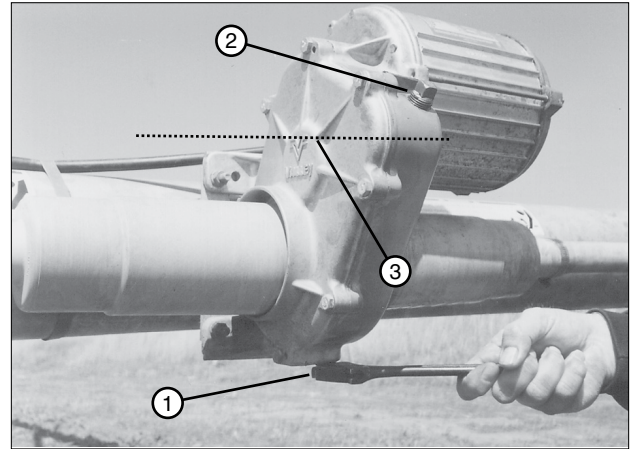

Figure 43-1 1. Drain Plug
1. Remove the drain plug and the fill plug. Drain the oil and install the drain plug. See figure 43-1.